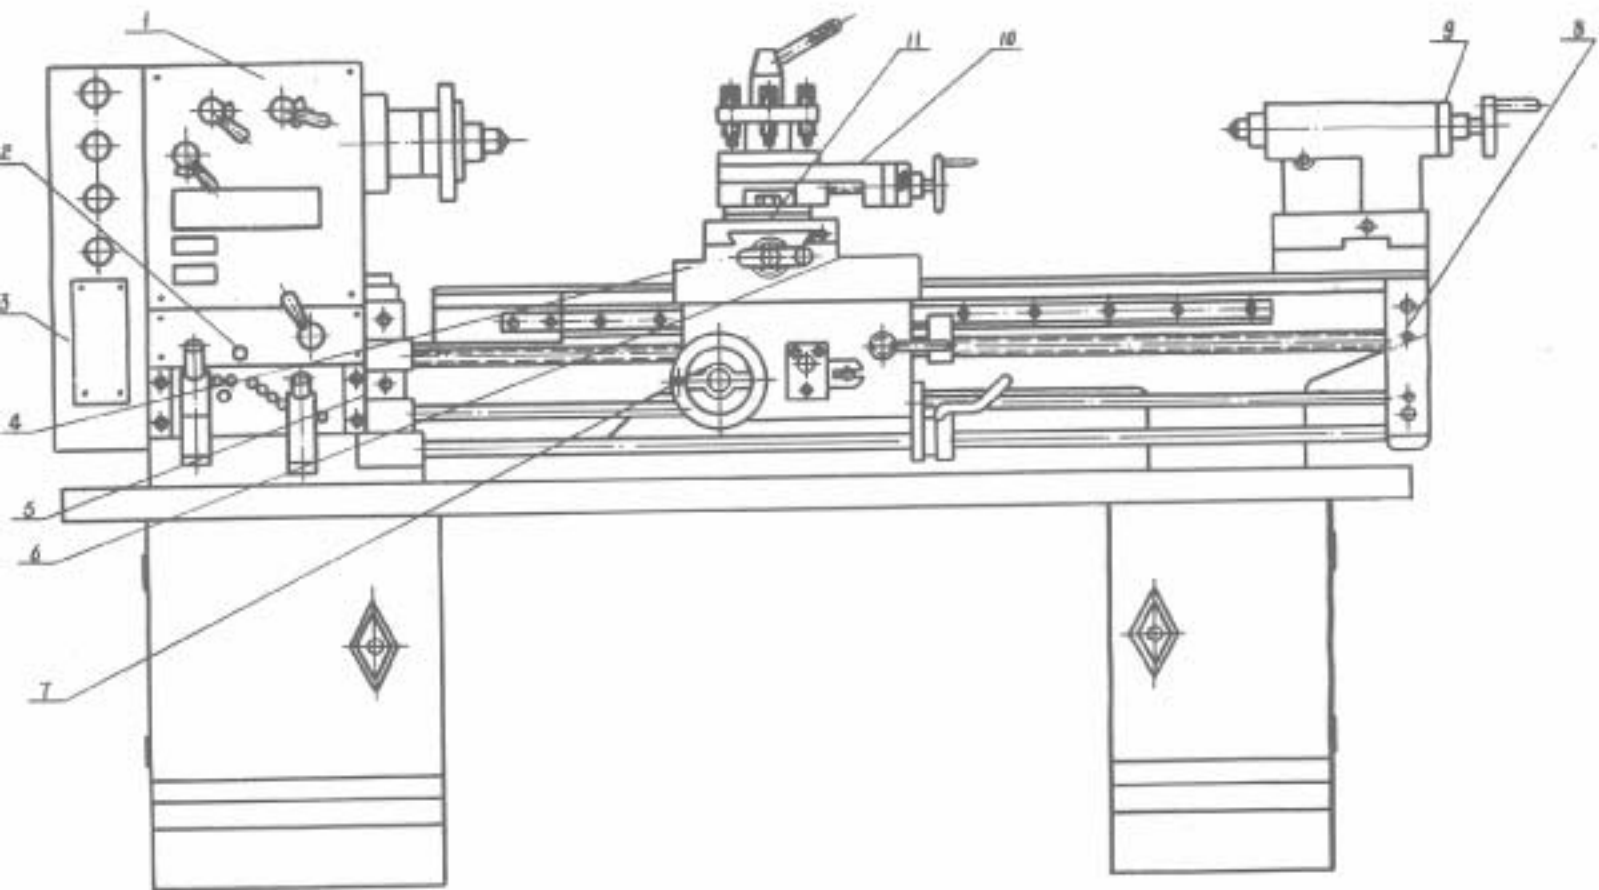

Fig. 6 Lubrication Chart
- All moving parts and sliding surfaces should be regularly lubricated with clean lubricating oil. Please refer to Fig. 6 for the lubrication holes.
- No.2 through 11 are lubrication points (see Fig. 6). They are oiled with oil gun twice a day.